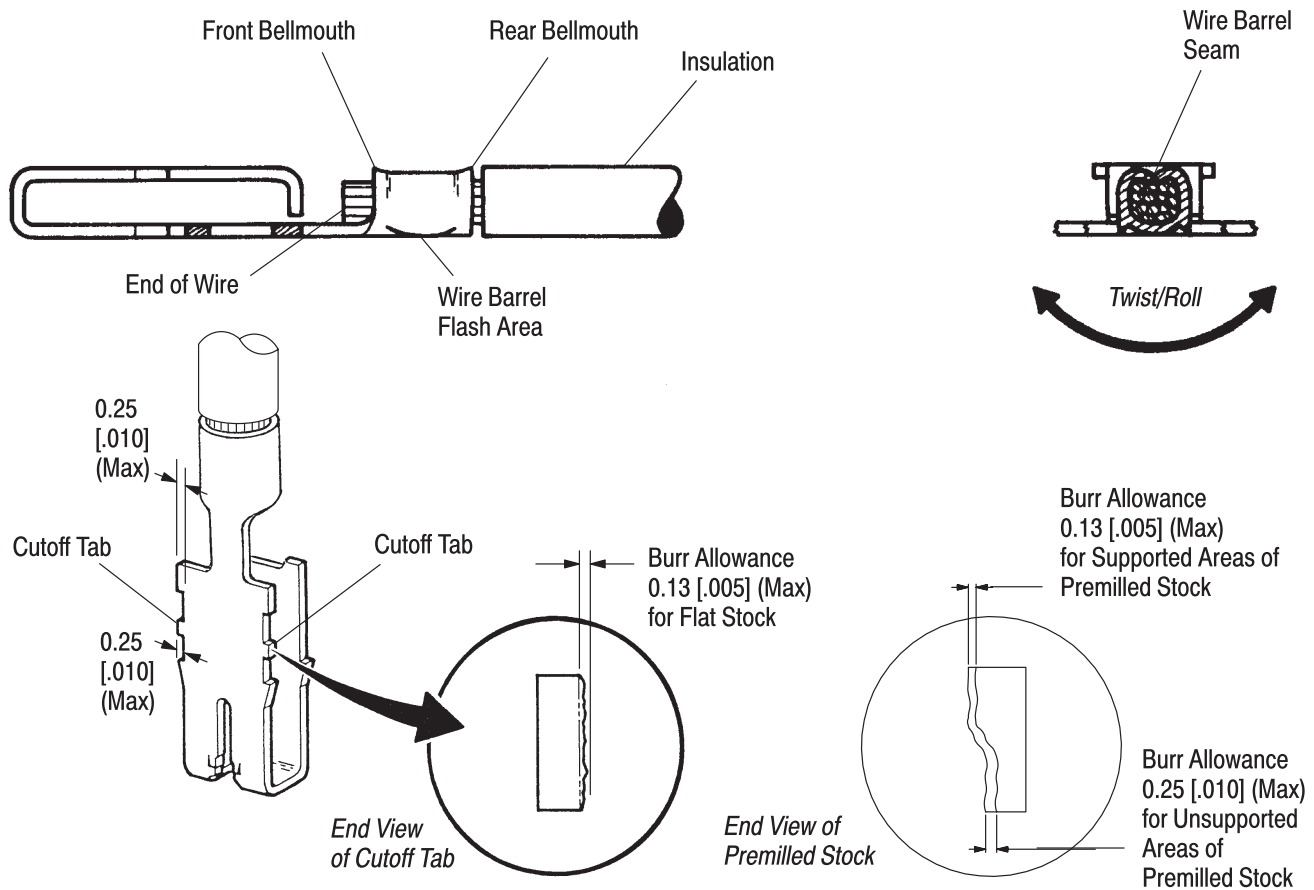

Figure 7
3.4. Terminating Crimp Wire (Figure 7)**NOTE**